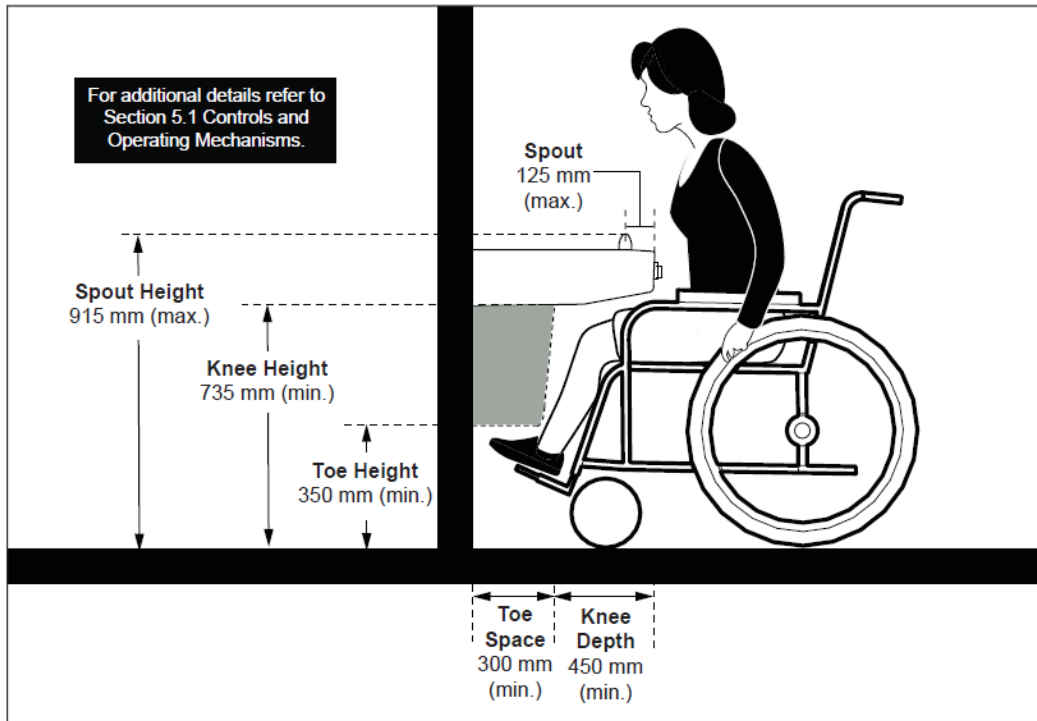

Figure 41: Drinking Fountain Design and Layout – Elevation View
- Knee clearance must be at least 760 mm wide by 450 mm deep at a height of 735 mm above the floor (see Figure 41)